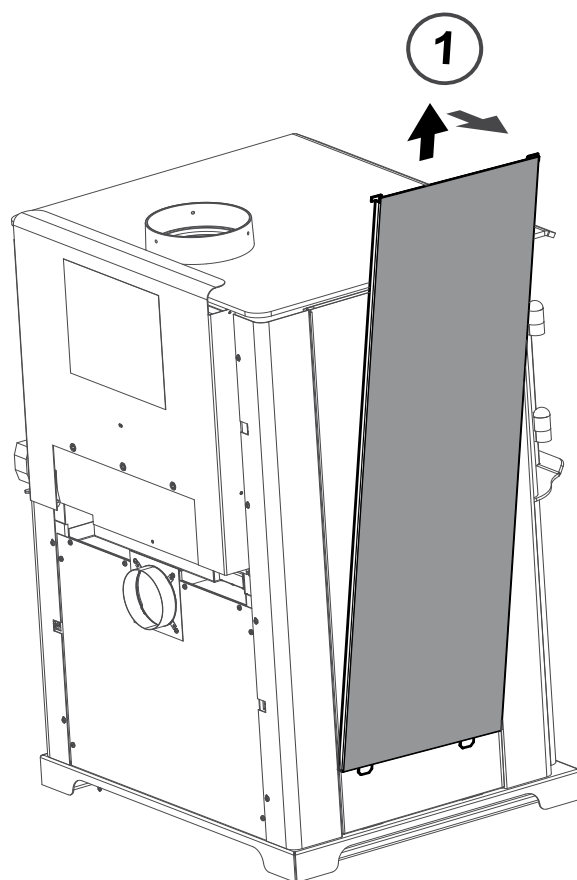

Figure 21.3
1. Remove solid panel from side by lifting up and pulling away from appliance (use a flat tool to pry from bottom if needed) (**Figure 21.3**).
2. Remove tile frame from side by lifting up and pulling away from appliance (**Figure 21.3 reference solid side panel removal**).